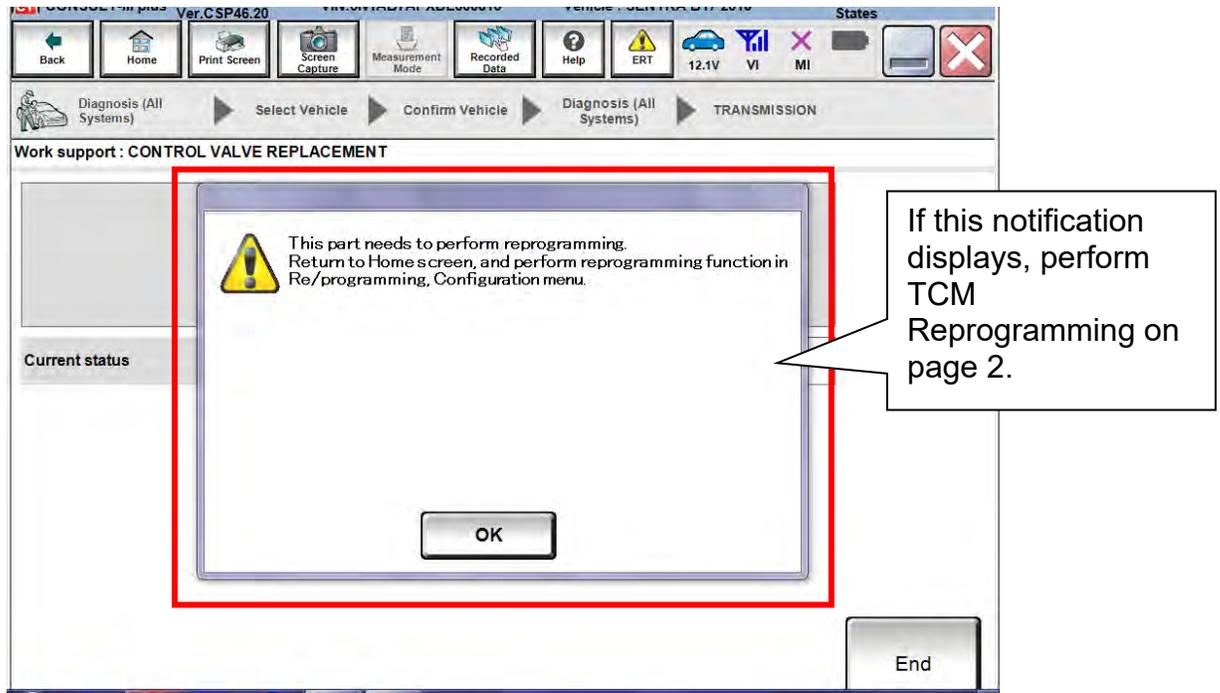

Figure 41
69. If the pop-up notification shown in Figure 41 displays, TCM Programming is not correct for the installed Control Valve.